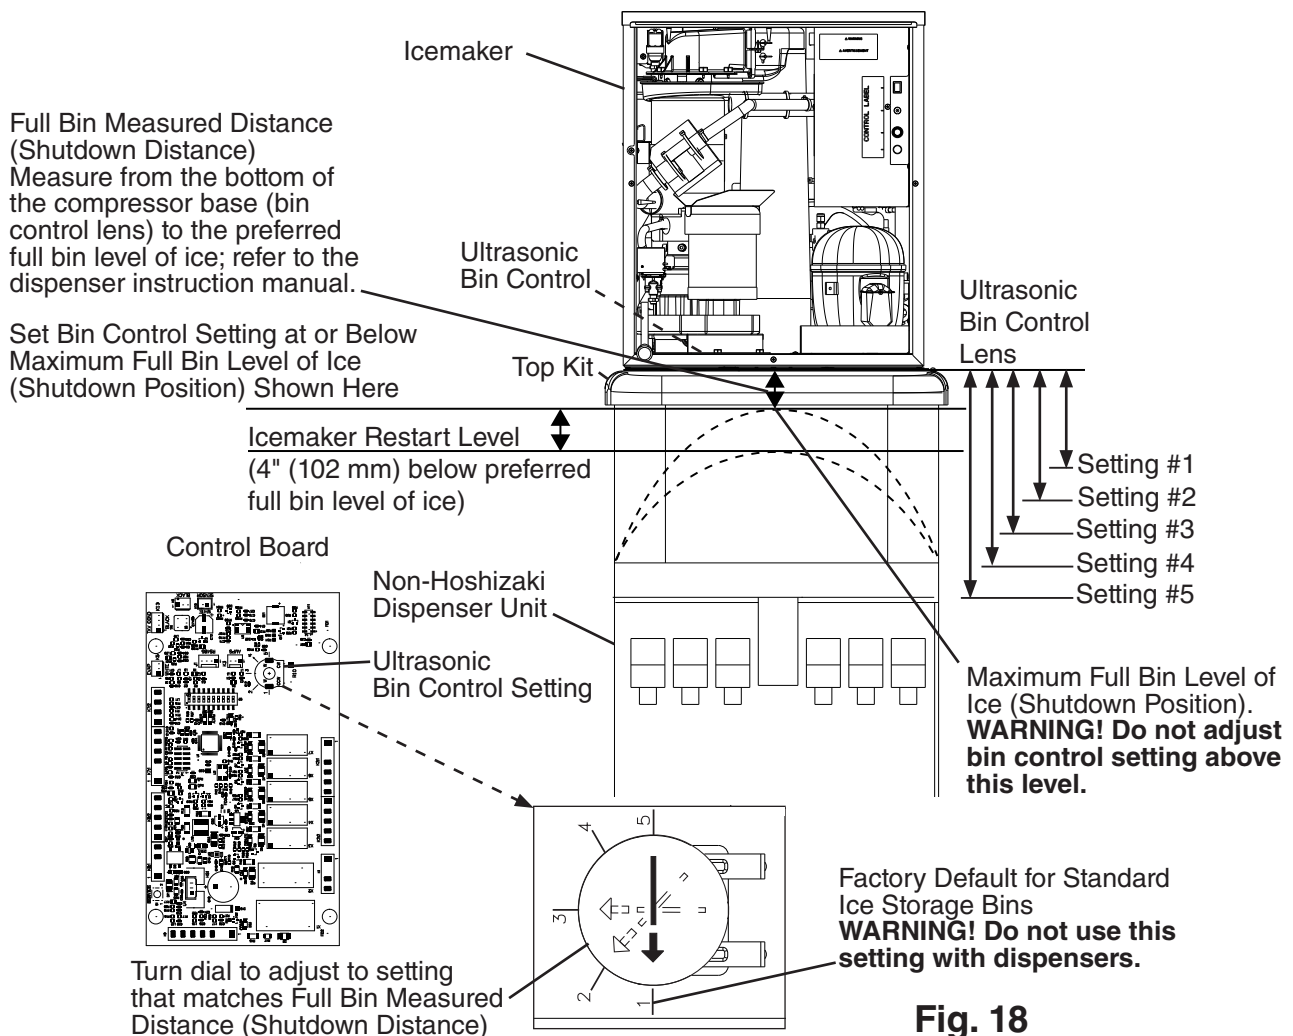

Fig. 18
- 2) Confirm the correct control board bin control setting required for your application and adjust according to the following tables. See Fig. 17 and Fig. 18.
For Non-Hoshizaki Dispenser Units. See Fig. 18